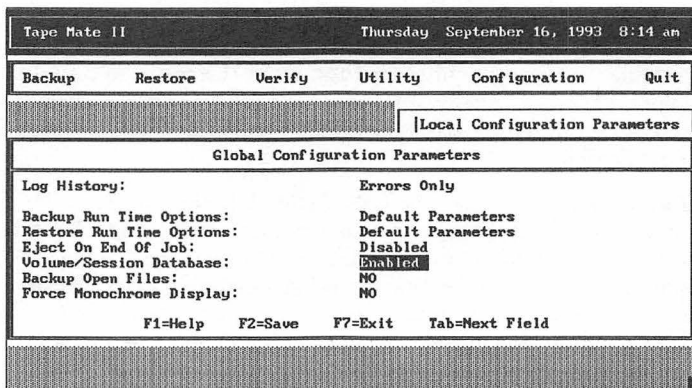

Figure 57 Global Configuration Parameters Dialog Box
- 2 Select Global Configuration Parameters. The Global Configuration Parameters dialog box appears, as shown in Figure 57.